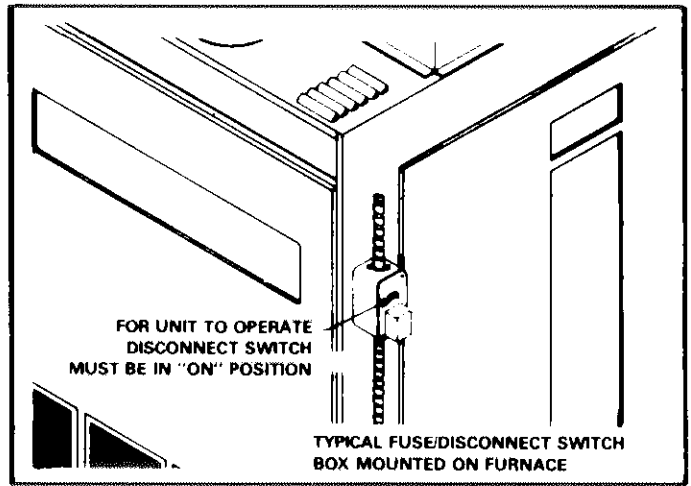

FIGURE 4
- 3 - Turn off all electrical power to furnace at unit disconnect switch. See figure 4.
- 1 - Turn off electrical power to furnace. See figure 4.
- 1 - Turn electrical power to unit off at disconnect switch, See figure 4.
- 1 - Turn off all electrical power at unit disconnect switch. See figure 4.